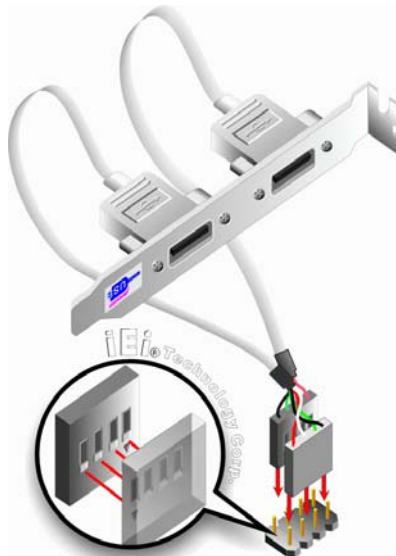

Figure 4-21: Dual USB Cable Connection
Step 3: Insert the cable connectors. Once the cable connectors are properly aligned with the USB connectors on the SPCIE-5100DX, connect the cable connectors to the on-board connectors. See **Figure 4-21**.